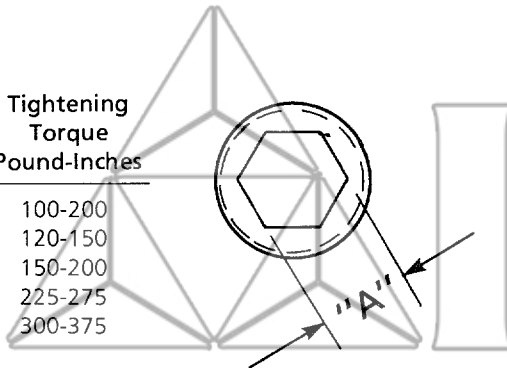

Figure 3
1. Observing correct line end orientation, hang circuit breaker from upper center circuit breaker terminal by placing over 1/2-13 threaded stud (800A) or two studs (1200A and 1600A) on top end sub-base assembly (see Fig. 3). Assemble flat washer, Belleville conical washer and nut over stud(s). Do not tighten at this time, line-up the remaining circuit breaker terminal holes with the holes in the remaining mounting pads, assemble 1/2-13 hex-head bolts with flat washer and conical washer into tapped hole(s) in straps. Tighten all terminal bolts to 300-400 lb in. (25-33 lb -ft) torque.